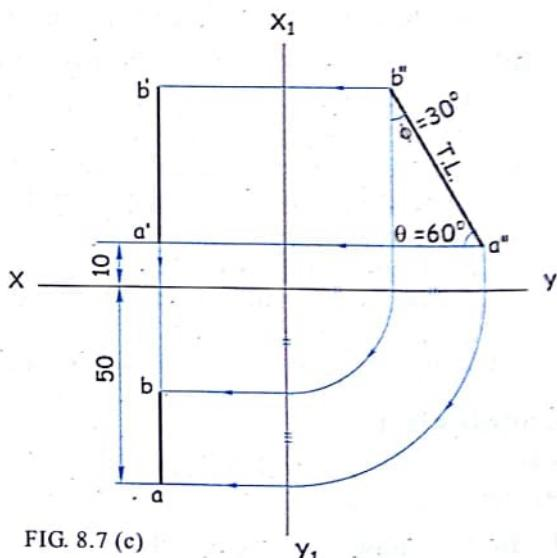

FIG. 8.7 (c)
- From F.V. ($a'b'$) and S.V. ($a''b''$), we can construct the T.V. (ab) as shown in figure 8.7 (c).